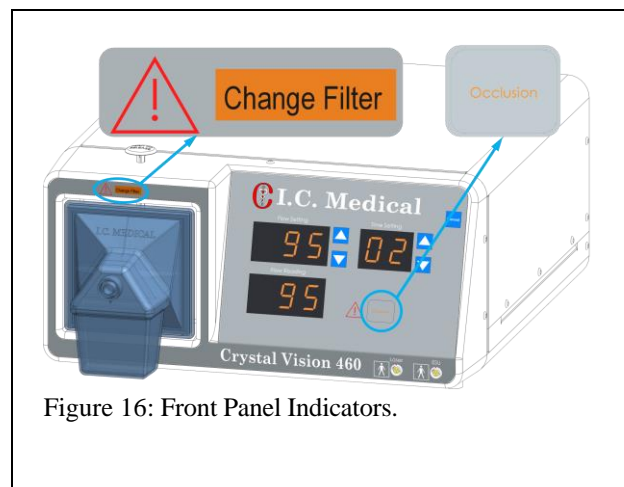

Figure 16: Front Panel Indicators.
8. **CHANGE FILTER** indicator is located above filter (Figure 16). It illuminates when there is a reduced flow into the **CRYSTAL VISION®**. The **SAFEGUARD BLUE®** Hydrophobic ULPA Filter with Built-in Fluid Trap should be changed when this light first illuminates. Do not attempt to clean or re-use the **SAFEGUARD BLUE®** Hydrophobic ULPA Filter with Built-in Fluid Trap . Dispose of the **SAFEGUARD BLUE®** Hydrophobic ULPA Filter with Built-in Fluid Trap according to your institution's biological waste protocol. This indicator will also come ON when there is a total occlusion. If the **OCCLUSION** indicator is also lit, be sure to clear the obstruction that caused it first and then check the **CHANGE FILTER** indicator. If it is still illuminated and the **OCCLUSION** indicator is not, then the **SAFEGUARD BLUE®** Hydrophobic ULPA Filter with Built-in Fluid Trap needs to be changed.
9. **OCCLUSION** indicates that flow into the **CRYSTAL VISION®** has stopped (Figure 16). The **CHANGE FILTER** light will also come ON at this time. The operator should check for kinked tubing, stopcocks that are turned OFF, clogged insufflator, use by date Large Coconut Charcoal Output Filter, or a completely clogged **SAFEGUARD BLUE®** Hydrophobic ULPA Filter with Built-in Fluid Trap. In order to prevent pump failure, the **CRYSTAL VISION®** pump will not activate when this lamp is illuminated.